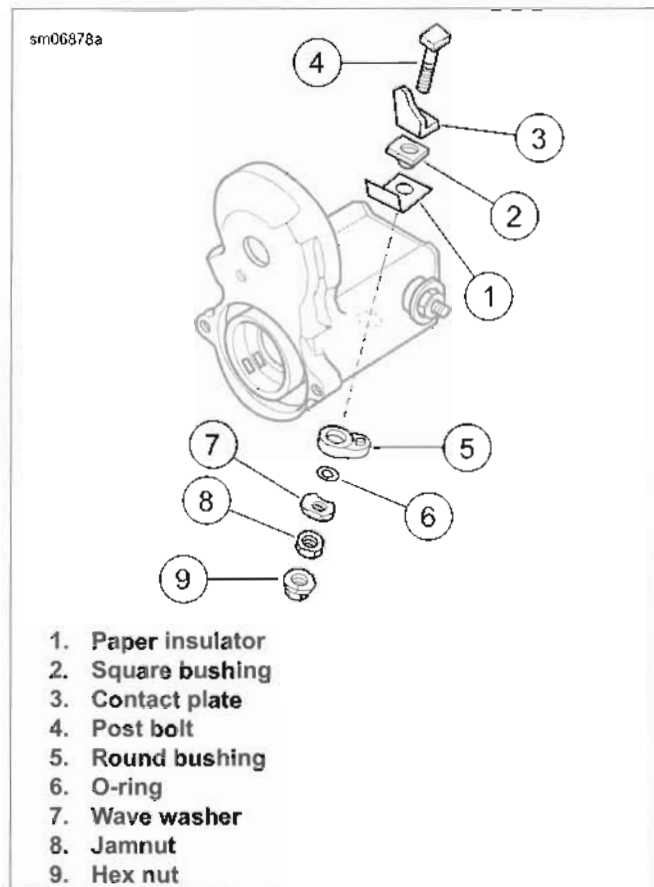

Figure 7-29. Long Post Contact (battery)
1. See Figure 7-29. Remove the long post contact:
- a. Remove hex nut (9).
- b. Remove jamnut (8), wave washer (7), O-ring (6) and the round bushing (5).
- c. Remove post bolt (4), contact plate (3), square bushing (2) and paper insulator (1).